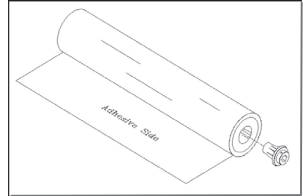

Figure 9
3. Insert one of the core adapters into the right end of the film core. For film with poly-in (adhesive side is inside the web), make sure the adhesive side is facing upward. (Fig. 9)